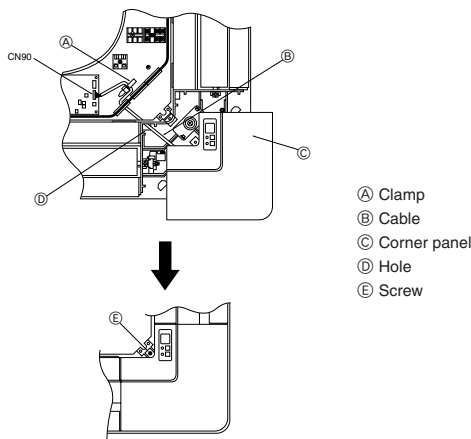

Fig. 10-10
10.6. Installing the wireless sensor (Fig. 10-10)